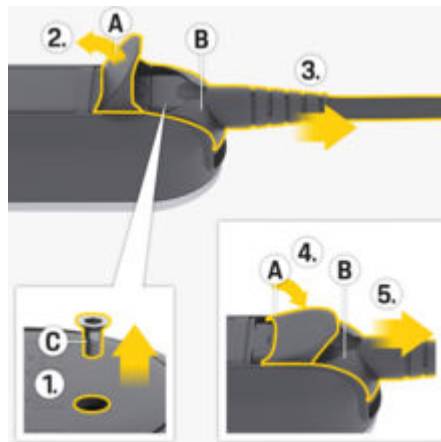

Fig. 13 Disconnecting the supply cable
1. Remove screw **C** (Fig. 13) using a suitable tool.
2. Fully open the cover **A** (Fig. 13).
3. Pull out the plug **B** (Fig. 13) until resistance is first felt.
4. Close the cover **A** (Fig. 13) to about 15 degrees (the cover can be in contact with plug **B** (Fig. 13)).
5. Pull out the plug **B** (Fig. 13) fully.